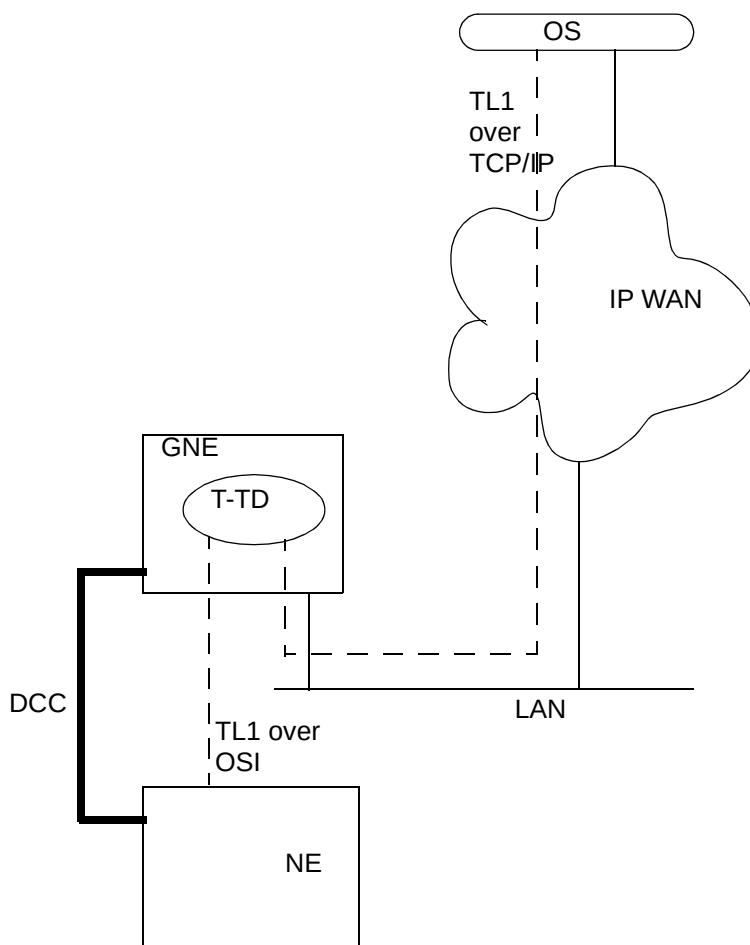

Figure 2-2. OS Communication (TL1) over IP through the GNE to the NE
- Over non-OSI WANs (see Figure 2-2 through Figure 2-7) with the help of operations communications interfaces supported on an intermediate network entity, which can be either:
Figure 2-2 shows the physical and logical connectivity between the OS and NE, with the GNE used as the IP to OSI gateway for TL1. The TCP/IP to OSI gateway allows TCP/IP between the OS and GNE to be the vehicle which allows TL1 commands/messages to flow between the OS and the NE.